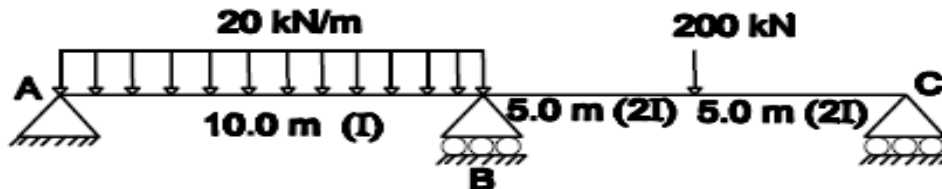

Figure 3
3. Analyse the continuous beam using force method treating the support reaction at 'C' as redundant [Figure.3]. Hence find the support reaction at A. Also Draw B.M.D. [14 M]